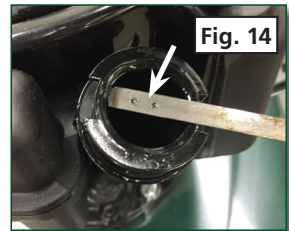

Fig. 14
2. ***Be careful not to overfill.*** The oil level should be between the two dots on the dipstick. The oil capacity is 20 ounces, but add oil using the dipstick as the gauge since there may be a small amount of residual oil in the crankcase, left over from engine testing. (Figure 14)